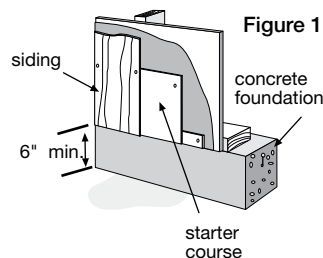

Figure 1
- When installing James Hardie® products all clearance details in figs. 1,2,3,4,5,6 & 7 must be followed.